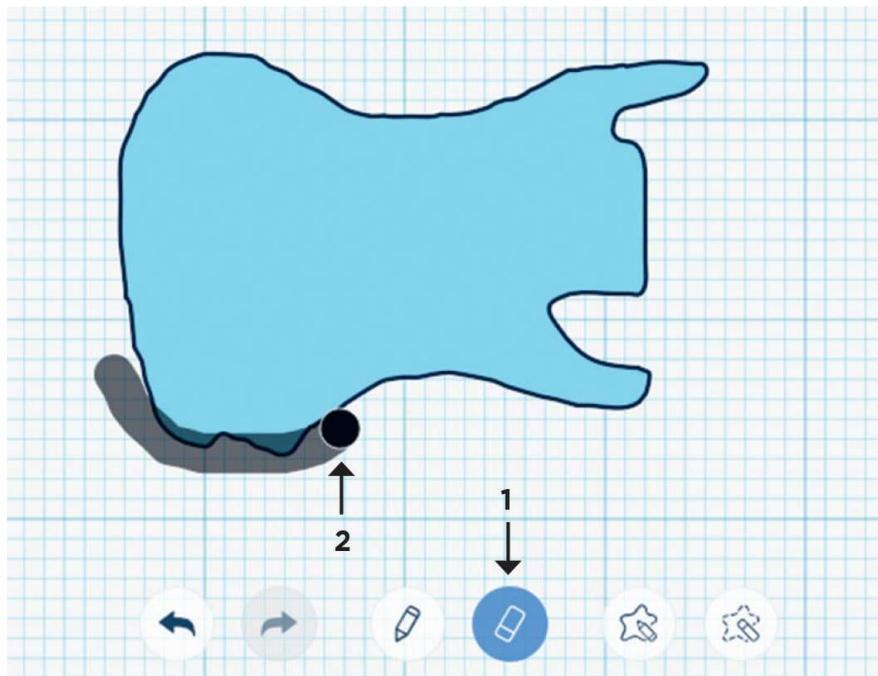
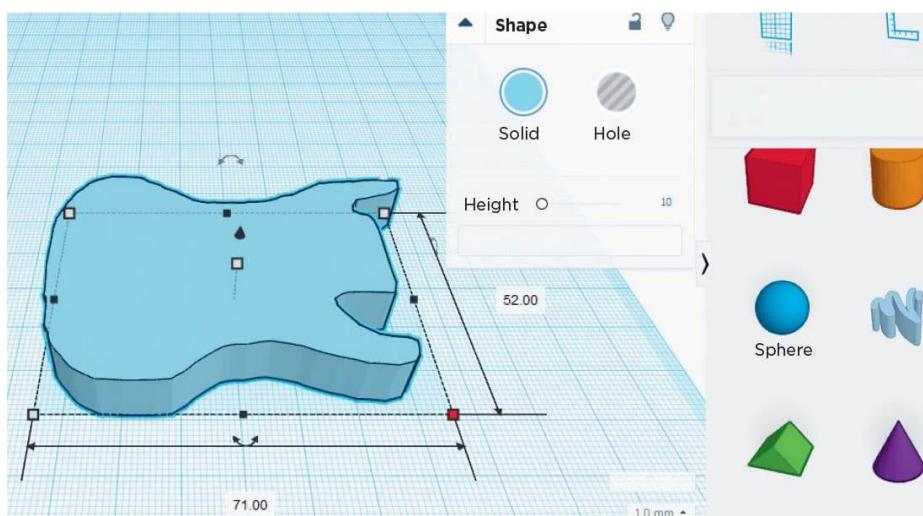
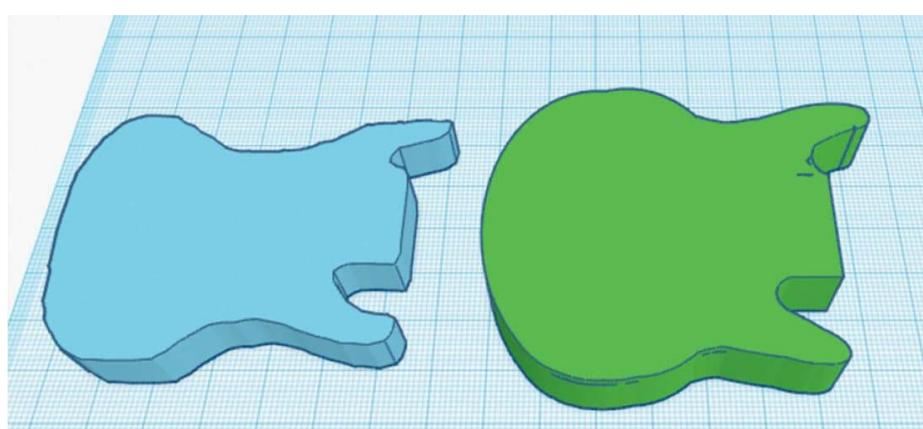

FIG. 2: Use the erase function to smooth out the scribble.
FIG. 3: The guitar body shape after initial smoothing.
FIG. 4: The comparison between the initial guitar shape and final shape after smoothing is complete.
2. The body created in step 1 looks rough. It is smoothed out using the **Erase** tool as shown in fig. 2. Arrow 1 in the image identifies the **Erase** tool, and arrow 2 shows how it is applied to smooth the edge of the guitar body. Click the **Done** button to complete editing the shape. Fig. 3 shows the resulting 3D guitar body after initial smoothing of the body. Keep editing the body by smoothing the edges to get the desired shape of the guitar body. Fig. 4 shows a comparison between initial smoothing and final guitar body.